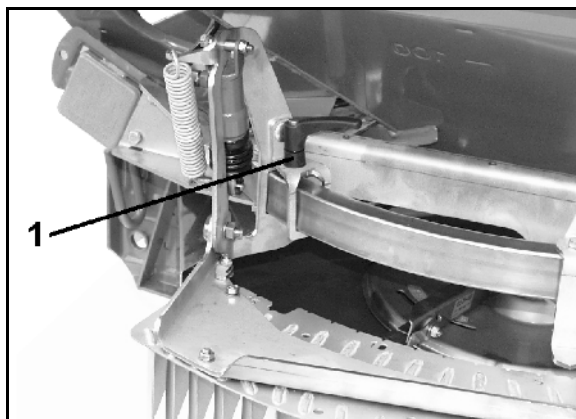

Fig. 78
1. For this purpose, release the clamping lever (Fig. 78/1).